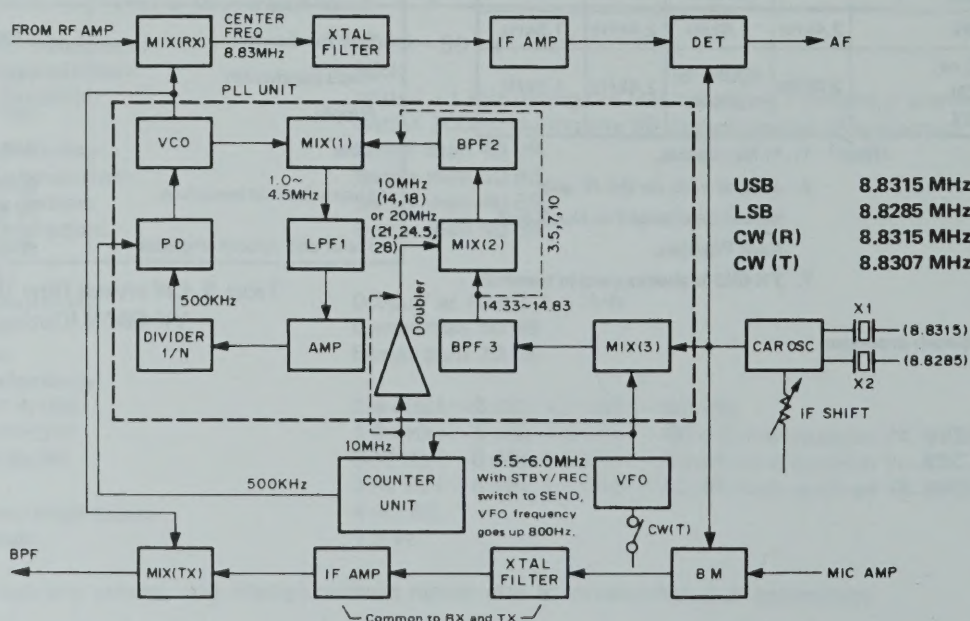

Fig. 1 TS-130 Frequency configuration
The TS-130 employs single conversion with a unique PLL circuit, as shown in Fig. 1.
Referring to Fig.1, MIX (3) combines CAR and VFO signals and is operated straight through to mixer (1) on 3.5, 7 and 10 MHz. MIX (2) operates at 14 MHz and above with the output of MIX (3) to provide mixer (1) input, as shown in Table 4. MIX (1) output is filtered, amplified, shaped and divided by the programmable divider to obtain 500kHz output.
The CAR oscillator contains one oscillator and two crystals for LSB, USB and CW operation. The oscillator frequency in each mode is listed in Fig. 1.